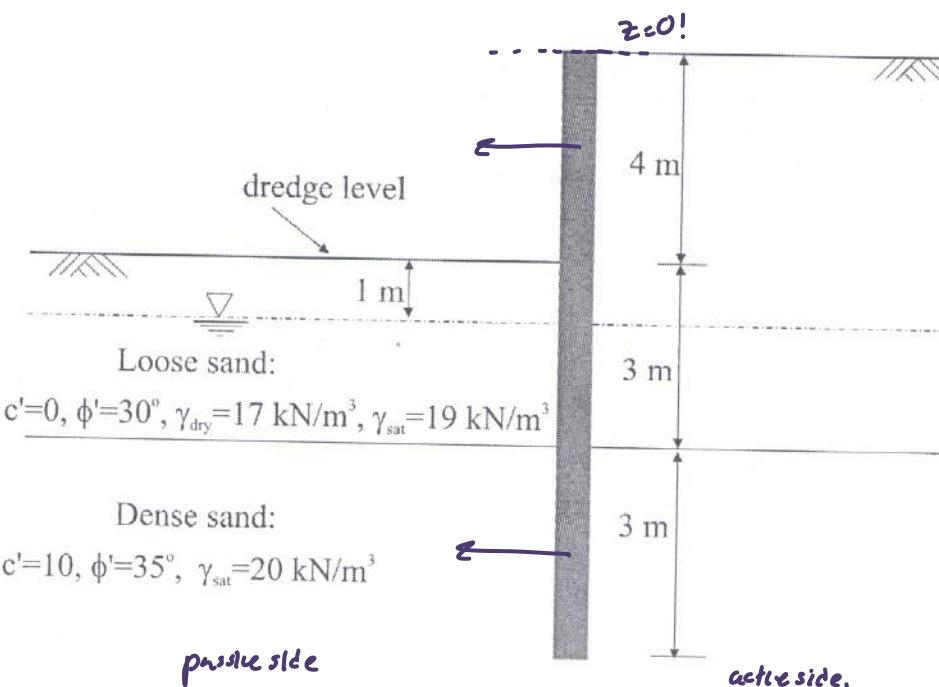

Figure Q4
- b) An embedded cantilever wall retains loose sand and penetrates 6m into the ground below dredge (excavation) level. A static water table exists at a depth 1m below dredge level. The wall penetrates through a layer of loose sand into dense sand. Assuming the front and the back of the wall are smooth and that loose and dense sand have properties indicated on Figure Q4, calculate the distribution with depth of Rankine active (σ_{ha}') and passive (σ_{hp}') horizontal effective stresses that act on the back and on the front of the wall respectively. Also calculate distributions of the corresponding pore pressures (u) and vertical effective stresses (σ_v'). Draw to scale appropriate diagrams of horizontal stress distributions with depth.